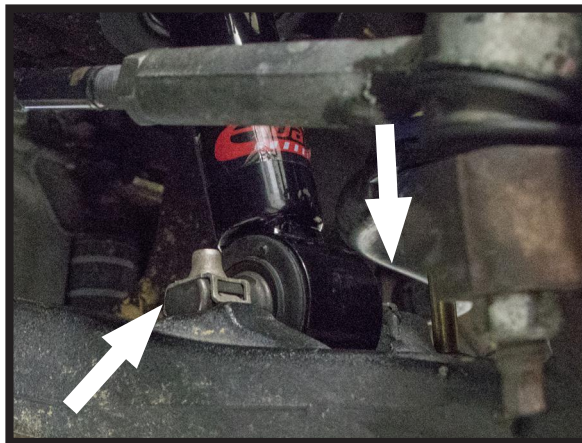

FIGURE 39
2. BE SURE TO POSITION THE T-BAR ON TOP OF THE CONTROL ARM TO ENSURE PROPER MOUNTING. (FIGURE 39)